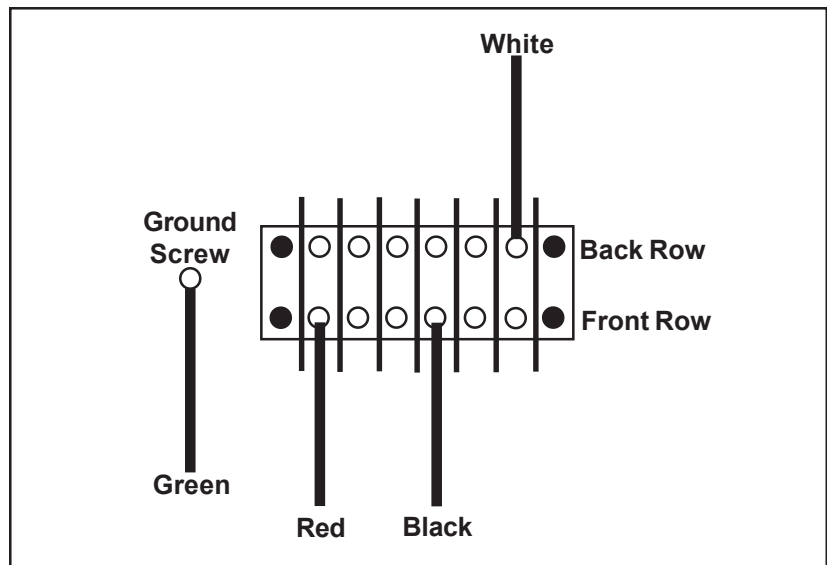

Figure 37. Foot Controller Wire Connections
2. Connect the four wires to the terminal strip and ground screw (Figure 37).